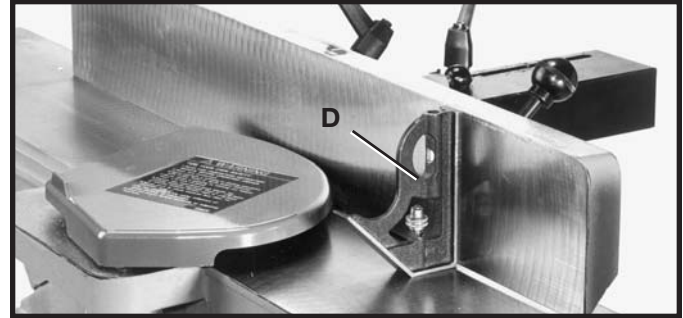

Fig. 51
2. Place a square (D) Fig. 51, on the table and against the fence and check if fence is 90 degrees to table.